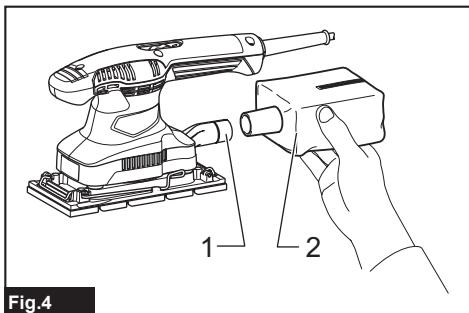

Fig.4
► Fig.4: 1. Dust spout 2. Dust bag